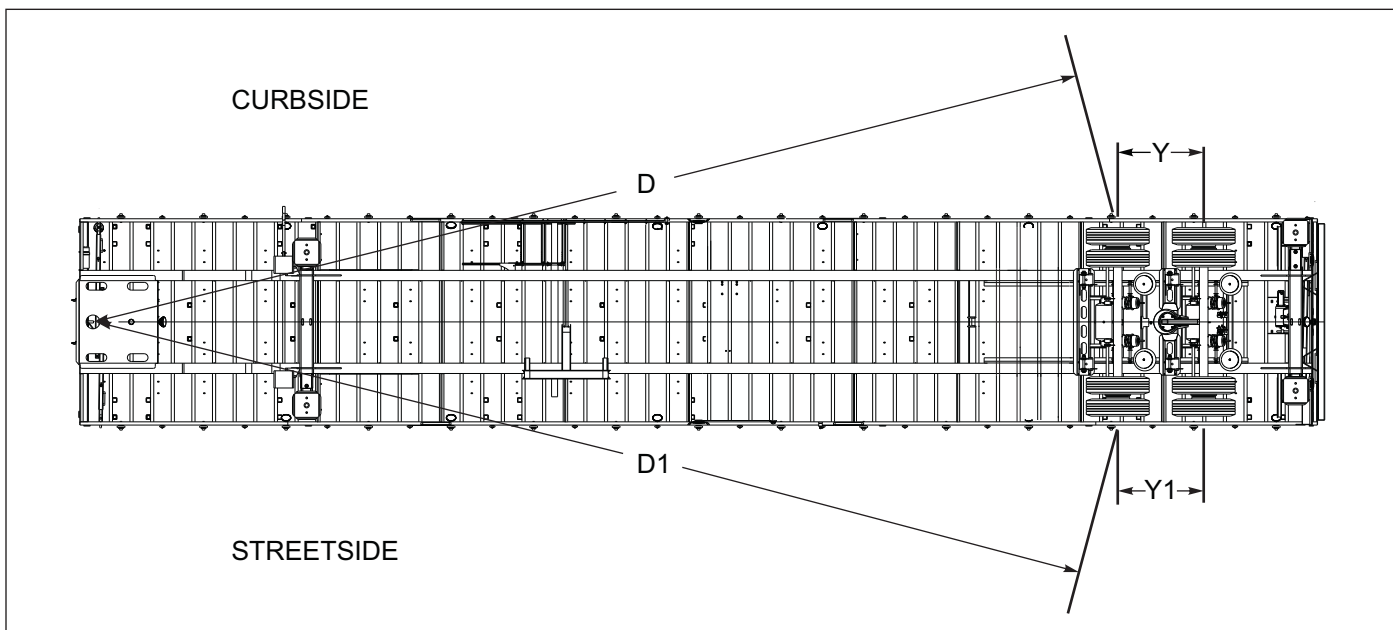

Figure 4-10: Checking Axle Alignment
4. Measure (D) from the plumb bob to the center point on one end of the axle. Record this measurement (*See Figure 4-10.*)
5. Measure (D1) to the other end of the axle in the same manner as in *step 4*. Record this measurement (*See Figure 4-10.*)